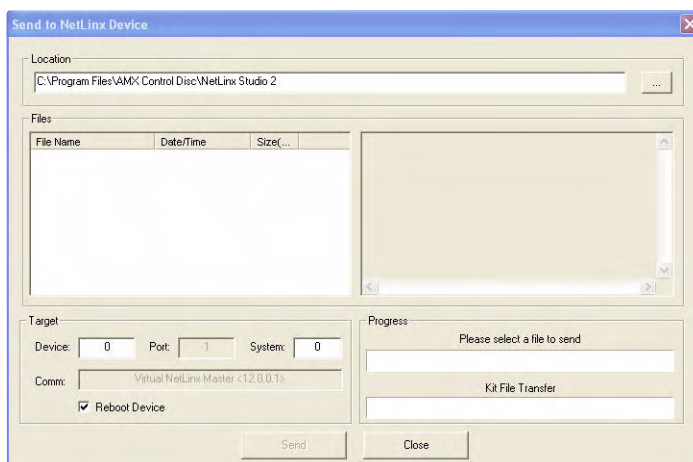

FIG. 84 Send to NetLinx Device dialog window
7. Select **Tools > Firmware Transfers > Send to NetLinx Device** from the main menu to open the *Send to NetLinx Device* dialog (FIG. 84). Verify that the panel's System and Device number values match those values listed within the System folder in the **OnLine Tree** tab of the Workspace window.